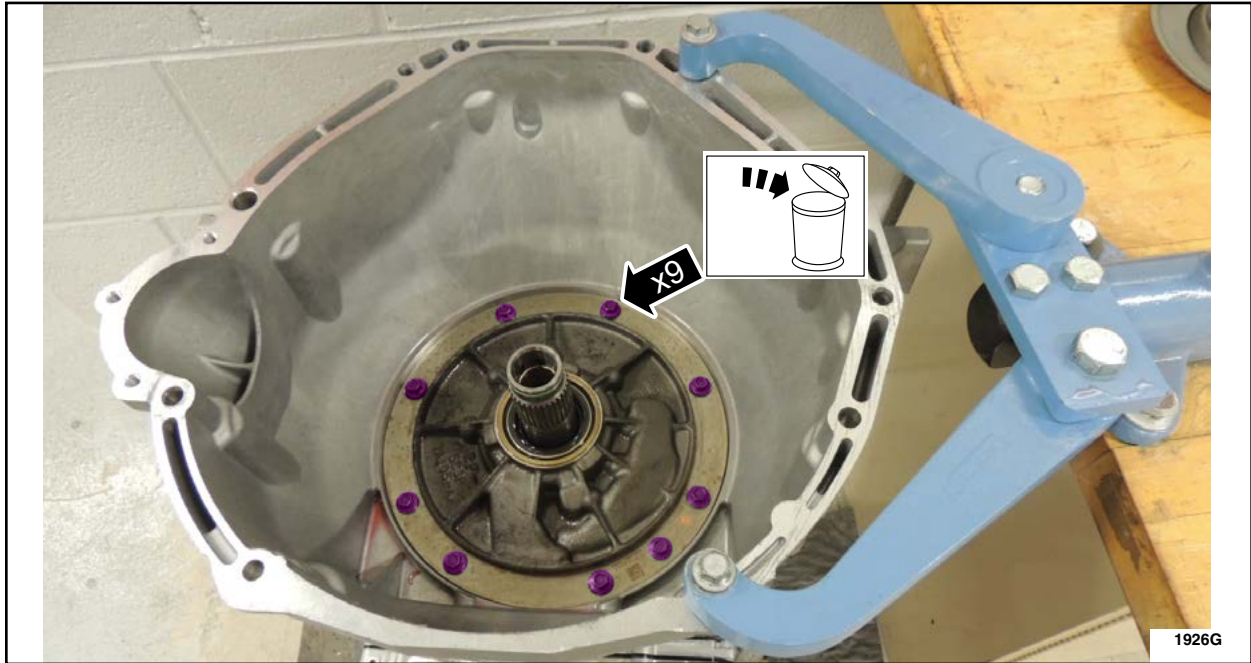

FIGURE 7
8. Remove and discard the nine front pump bolts. See Figure 7.